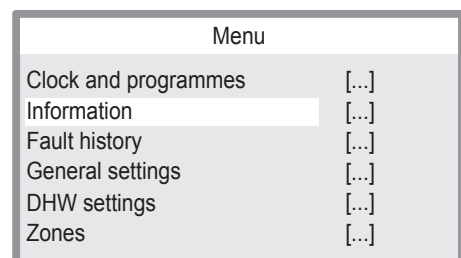

Figure 4.9
- 2 Press key "A" or "B" (Figure 4.7) to select the desired menu (Figure 4.9).